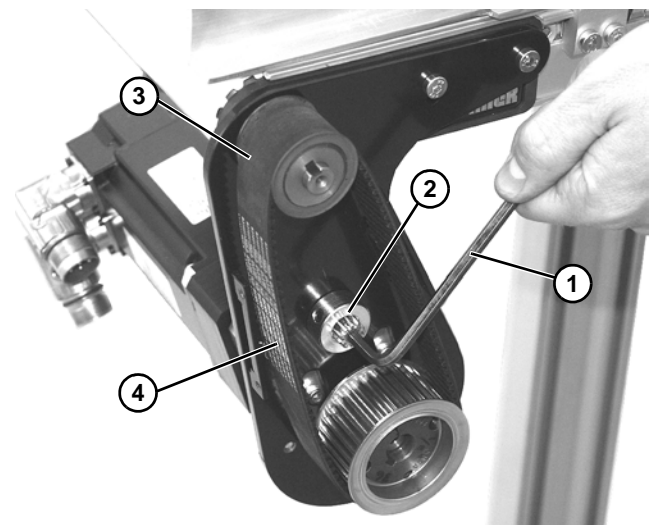

Figure 51
3. Use a hex wrench (**Figure 51, item 1**) to turn tensioner adjustment fitting (**Figure 51, item 2**) to tighten belt (**Figure 51, item 3**).
4. Depending on conveyor belt travel (direction A or B), locate timing belt tensioner (**Figure 51, item 2**) as shown. Tension timing belt to obtain 1/8" (3 mm) deflection for 6 lb (3 Kg) of force at timing belt midpoint (**Figure 51, item 4**). Tighten tensioner screw to 110 in-lb (12 Nm).
5. Depending on conveyor belt travel (direction A or B), locate timing belt tensioner (**Figure 51, item 2**) as shown. Tension timing belt to obtain 1/8" (3 mm) deflection for 6 lb (3 Kg) of force at timing belt mid-point (**Figure 51, item 4**). Tighten tensioner screw to 110 in-lb (12 Nm).